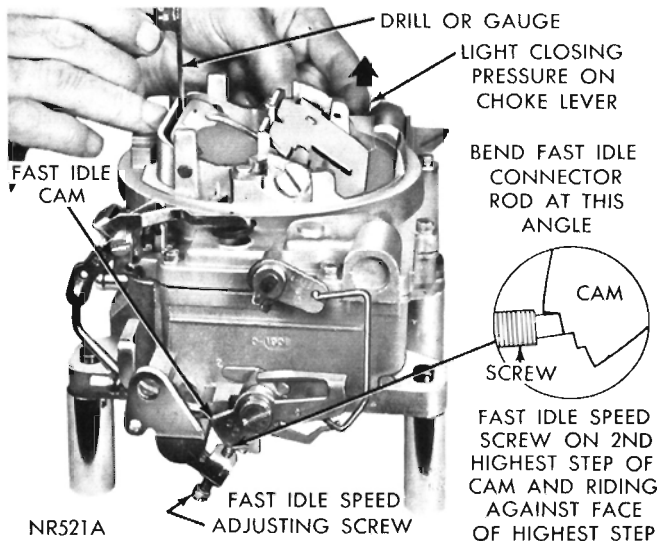

Fig. 12—Fast Idle Cam Position Adjustment
(1) With fast idle speed adjusting screw contacting second highest speed step on fast idle cam, move choke valve toward closed position with light pressure on choke shaft lever.
(2) Insert specified drill (refer to Specifications), between choke valve and wall of airhorn (Fig. 12.) An adjustment will be necessary if a slight drag is not obtained as the drill is being removed.
(3) To adjust, bend fast idle connector rod at angle, using Tool T-109-213 until correct valve opening has been obtained. (Fig. 12.)